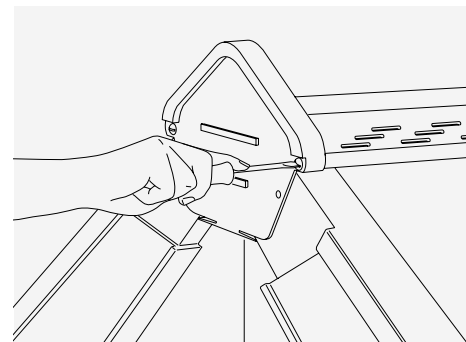
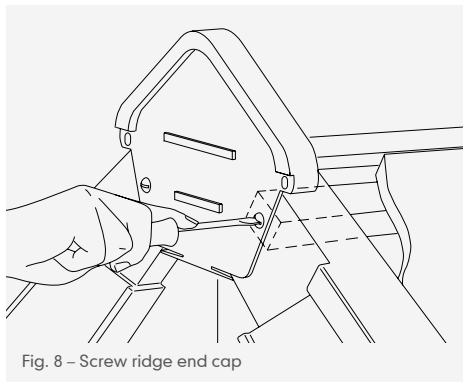
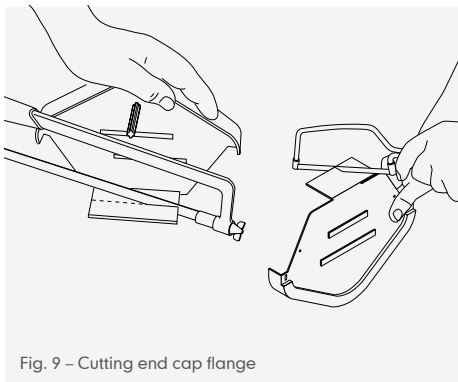

Fig. 7 – Screw fix ridge end cap
Fig. 8 – Screw ridge end cap
Fig. 9 – Cutting end cap flange
14 If required, trim flange of ridge end cap to fit between top course verge units (Fig. 9, page 146). Screw ridge end cap to end of dry ridge batten locating 25mm x 8g stainless steel screws into end of circular beads on upper flange (Fig. 7).
- 16 If required, trim flange of ridge end cap to fit between top course verge units (Fig. 9). Screw ridge end cap to top course verge unit, locating stainless steel screws through lower, partly formed fixing holes (Fig. 8).